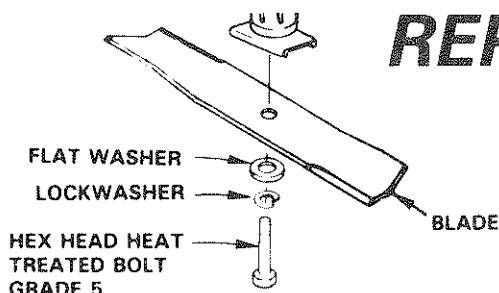

FIGURE 46
- Remove the hex head bolt, lockwasher and flat washer (Fig. 46).